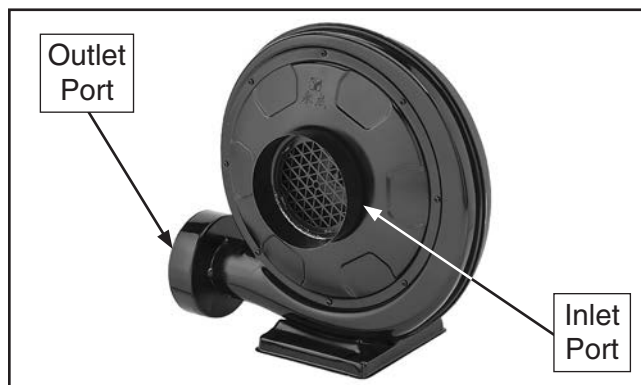

Figure 25. Exhaust fan inlet and outlet ports.
4. Use included hose clamps to connect and secure one end of ducting to exhaust port on machine, then connect and secure other end of ducting to inlet port of exhaust fan, as shown in **Figure 25**.
5. Connect and secure remaining ducting to exhaust fan outlet port (see **Figure 25**).